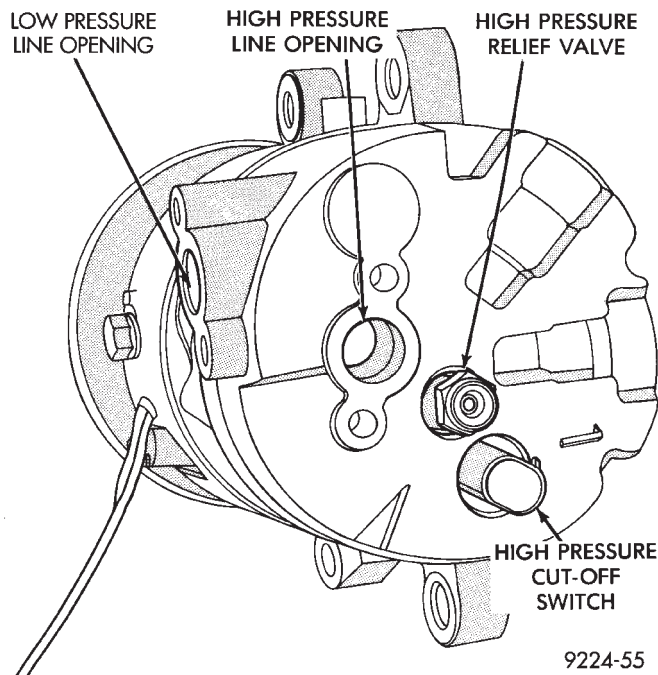

Fig. 9 High Pressure Relief Valve Removal
- (1) Discharge the refrigerant system.
- (2) Rotate the high pressure relief valve counter-clockwise and separate relief valve from the vehicle (Fig. 9).